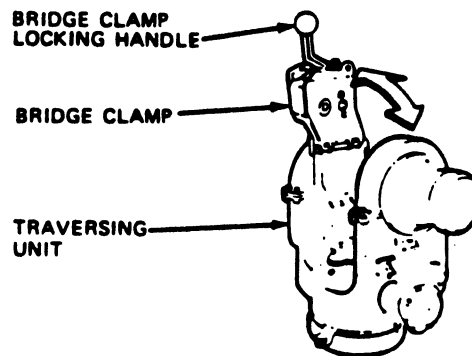

Fig 3-4. Traversing unit--continued.
Step 6. Lower the bridge clamp and the bridge clamp locking handle fully, then slowly raise the bridge clamp locking handle (fig 3-4).
Step 7. Lower the bridge clamp locking handle slowly (fig 3-4).